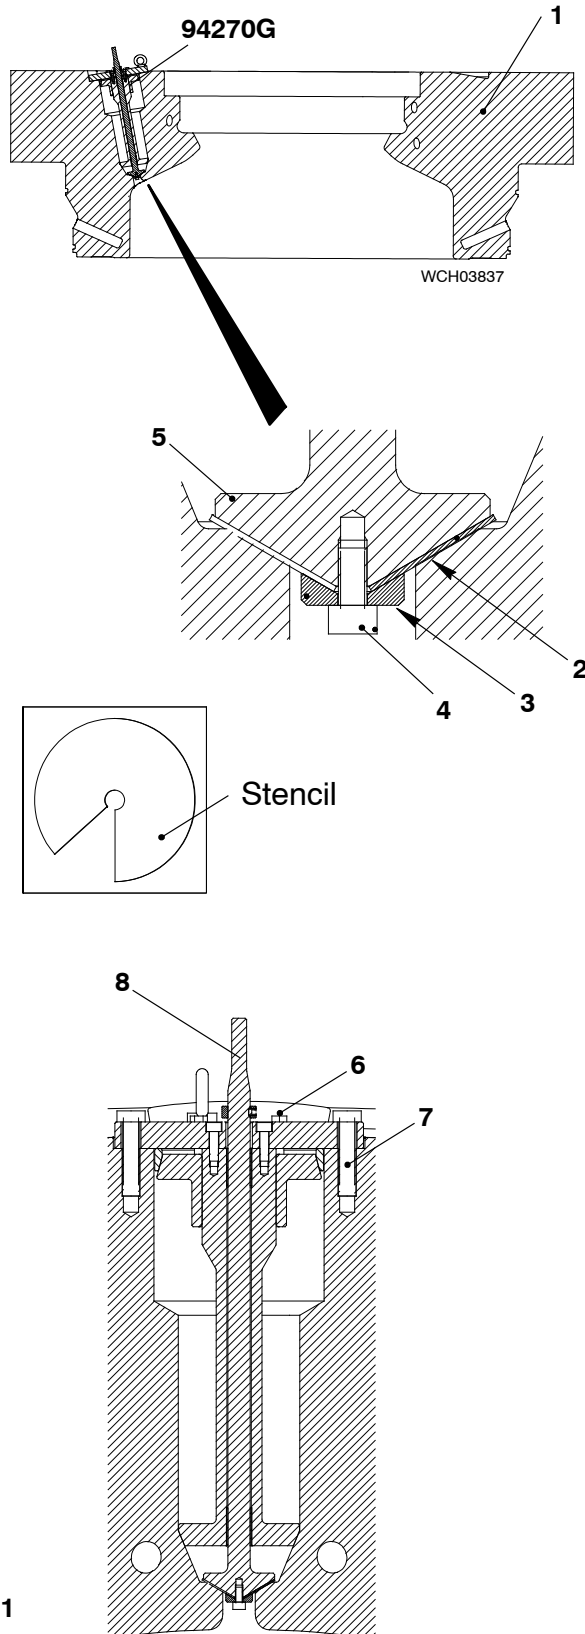

Fig. 1
- 1) Clean the injection valve bore in the cylinder cover (1, Fig. 1).
- 6) Put the shape on the cone (5).
- 7) Attach the shape to the cone (5) with the clamp ring (3) and the screw (4).
- 8) Torque the allen screw (4) to 4.0 Nm.
- 10) Torque the two bolts (7) to 1.0 Nm to align the tool (94270G) in the center of the bore.
- 11) Torque the four bolts (6) to 3.5 Nm